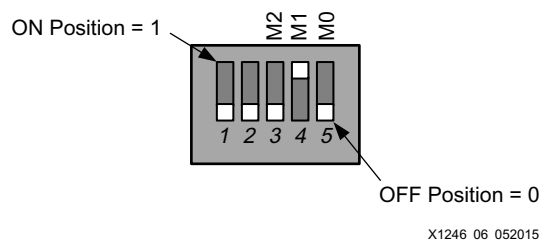

Figure 6: VC707 SW11: Mode Pin Settings
1. Ensure that the appropriate configuration mode (Master BPI) is selected for switch SW11 on the VC707 board as shown in Figure 6.